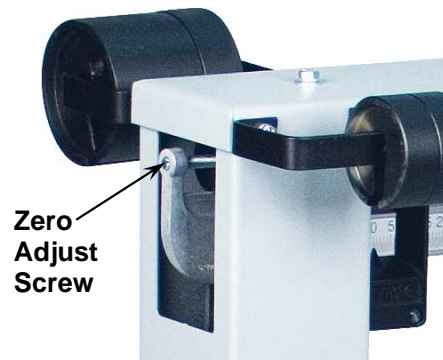

Figure No. 3
1. With no load on the scale platform, move the Sliding Poise to zero, and then unlock the Beam Lock. The Beam Tip should be centered vertically in the Trig Loop. If the tip is not centered, turn the Zero Adjust Screw until it is. See Figure No. 3.